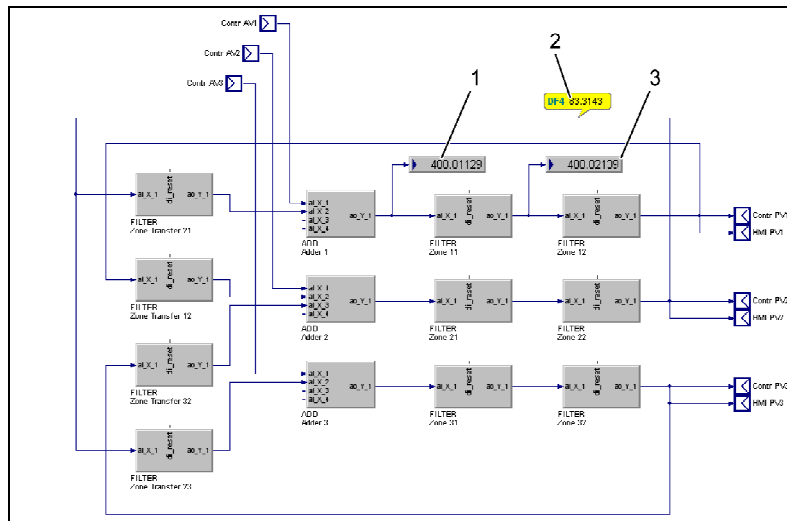

Fig. 701 Programmer project: Debugging example
- Testing an application:** There are two possibilities to localize application errors: When you position the mouse pointer on a connecting line, the relevant values are displayed (no. 2 in Fig. 701). Alternatively, special blocks from the PMA library can be used. As trouble shooting in applications is also called "Debugging", these are termed "Debug blocks". You can use these blocks to display information on the program during runtime (1 and 3 in Fig. 701). They are displayed exclusively in the development environment (i.e. not on the instrument).
- Program blocks:** Program blocks are the basic units making up your project. Program blocks consist of function blocks (for example controllers, filters, totalizers, etc.), links between function blocks as well as inputs and outputs. An example of such a function block is given in Fig. 701. Your application may consist of max. 15 program blocks.